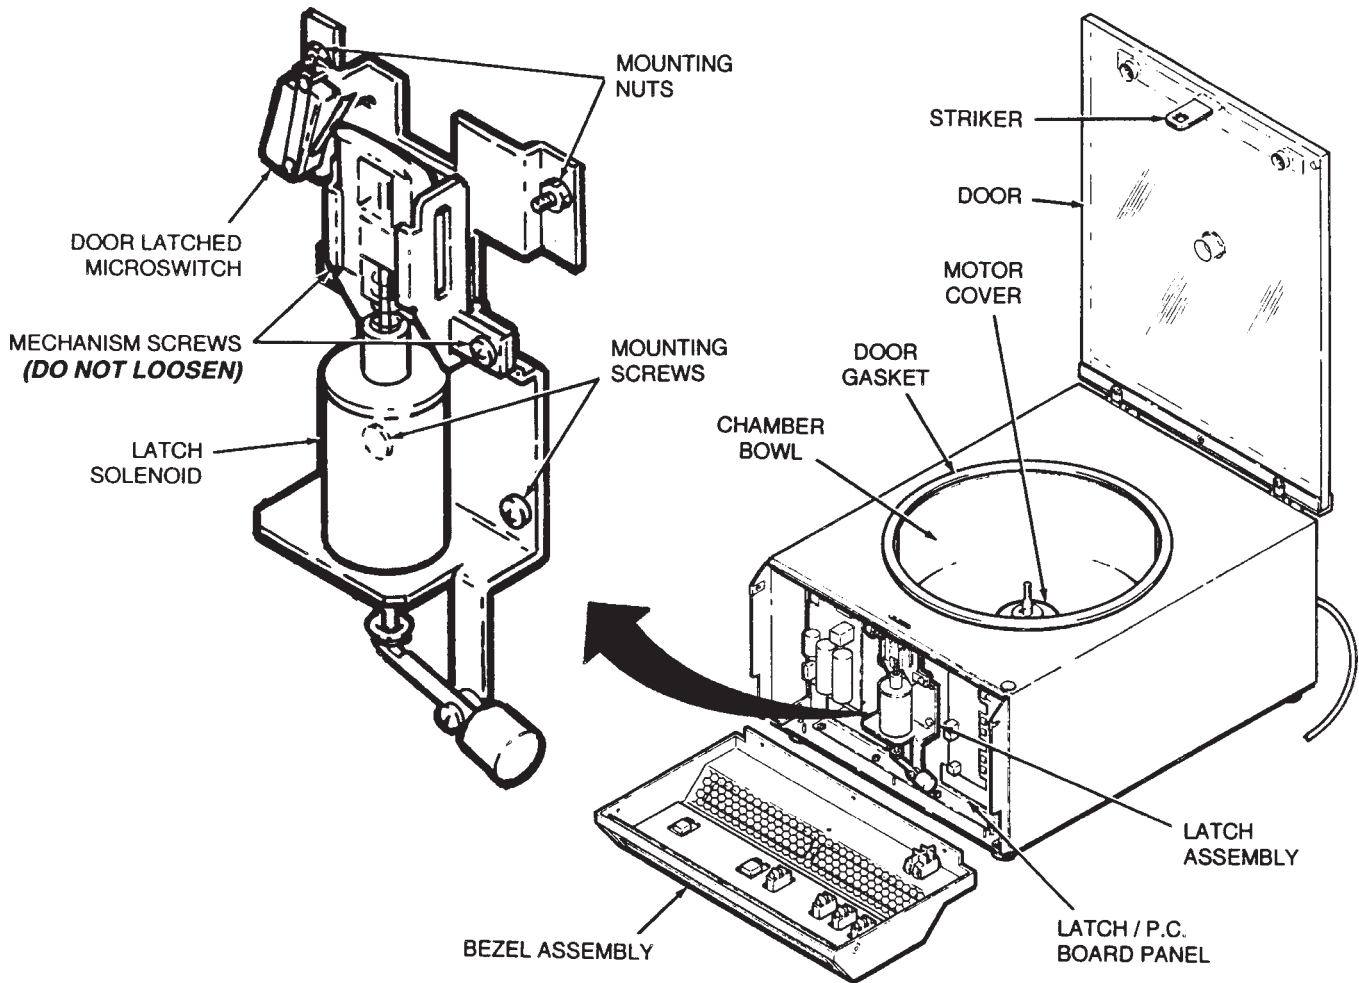

Figure 5-1. Latch Assembly
4. The latch assembly is installed on the Latch/P.C. Board panel using mounting hardware (two nuts at the top of the bracket and two phillips screws at the bottom of the bracket). Remove the latch mounting hardware - the nuts require a 7 mm wrench. Refer to figure 5-1.
4. Remove two phillips head screws securing the bottom of the latch assembly bracket to the latch/P.C. board panel, then remove the two nuts securing the top of the bracket. Refer to figure 5-1.